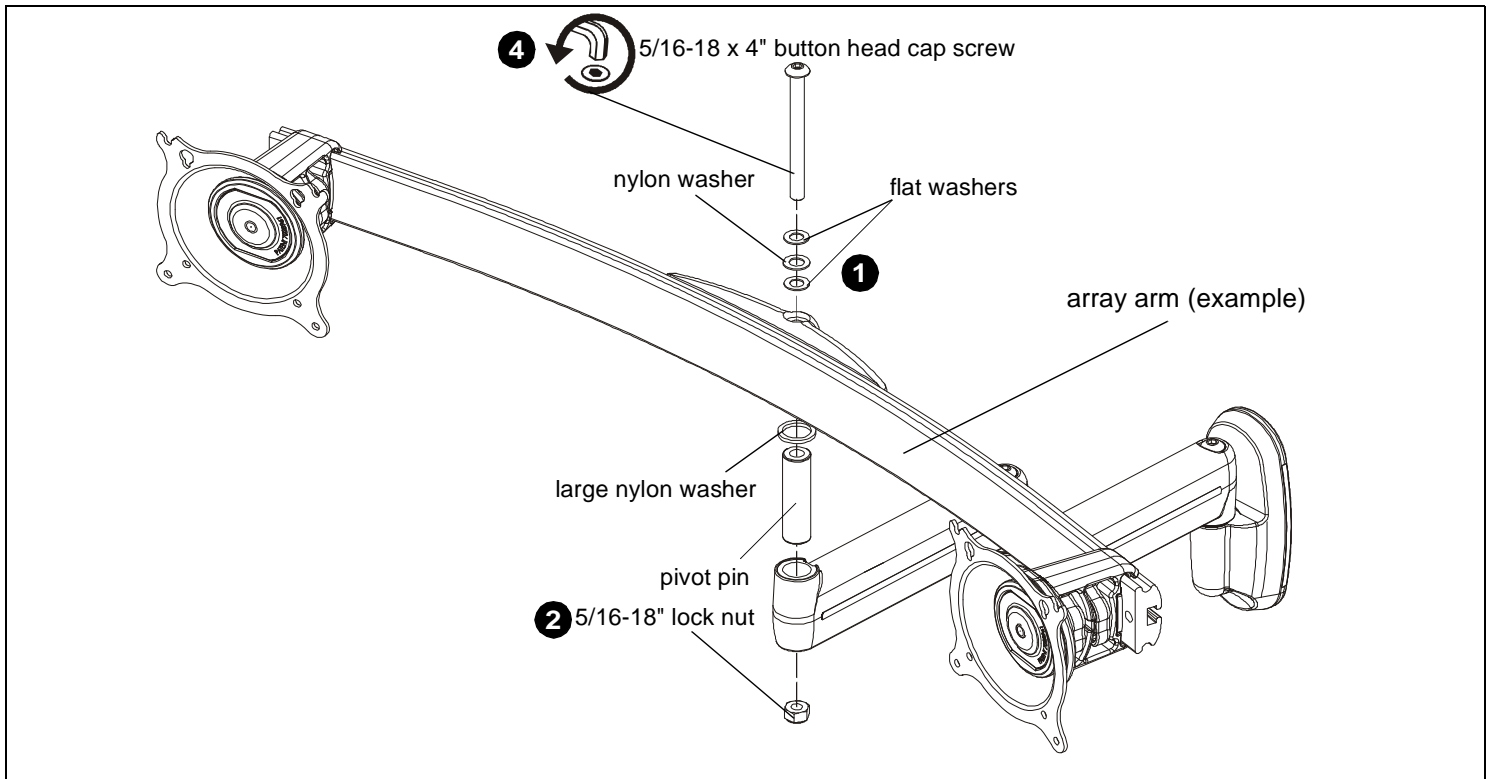

Figure 1
1. Assemble one flat washer, one nylon washer, and a second flat washer onto button head cap screw. (See Figure 1)
2. Insert Nylock retaining nut into swing arm bottom. (See Figure 1)
3. Insert button head cap screw with washers through array rail or centris head, and down through large nylon washer and pivot pin. (See Figure 1)